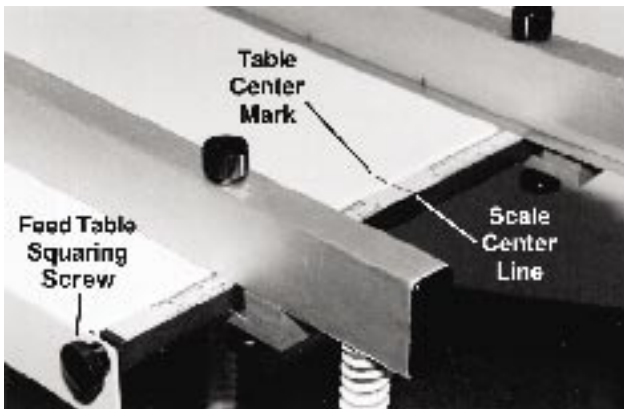

Fig 20
1. Adjust the feed table squaring screw and align the center line of the scale with the center mark on the feeder table (Fig 20).
2. Loosely position the feed table side guides to the scales on the feed table, (fig 20 & 21). Read the front scale at the inside edge of the side guide clamp block. The rear scale will line up with the inside edge of the side guide. The scales are set up to center the paper on the sucker wheel. Initially set each guide 1/4" (6mm) wide. Do not tighten the lock knobs.
4. Position the operator side guide so it is just touching the sheet but not pushing it. The side guide must be even to the sheet from end to end. Tighten the front lock knobs then the rear knobs, (fig 20 & 21).
6. The paper will now feed square into the rollers. Now that the side guides are square, the feed table squaring screw, (Fig. 20), can be adjusted for fine tuning the overall squareness.